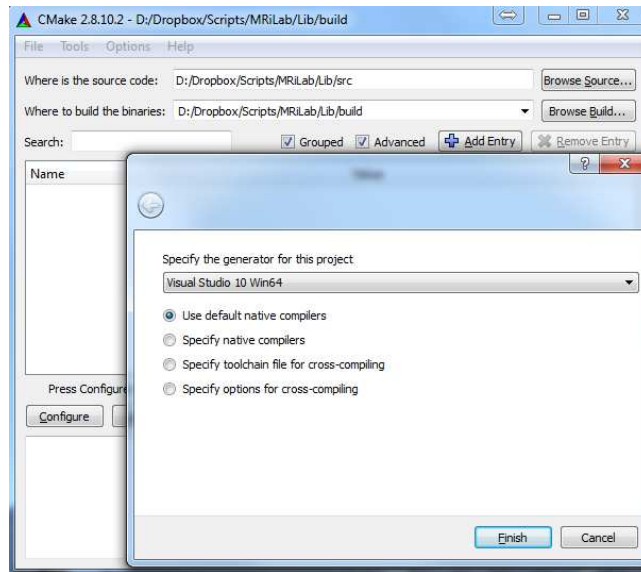

Figure 1.1: The cmake-gui for locating source folder and build folder
- Step 1 : Locate source folder and build folder in cmake-gui (Figure 1.1)